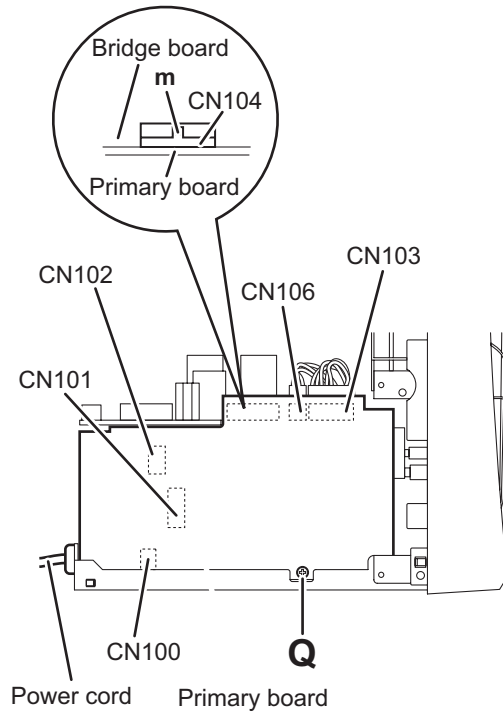

Fig.19
3.1.11 Removing the primary board (See Fig.19)